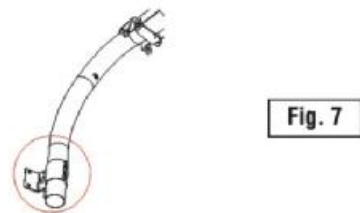

Fig. 7
6. Secure clamp onto the base of the arm, as shown in Fig. 7. Ensure that the arm does not rotate.